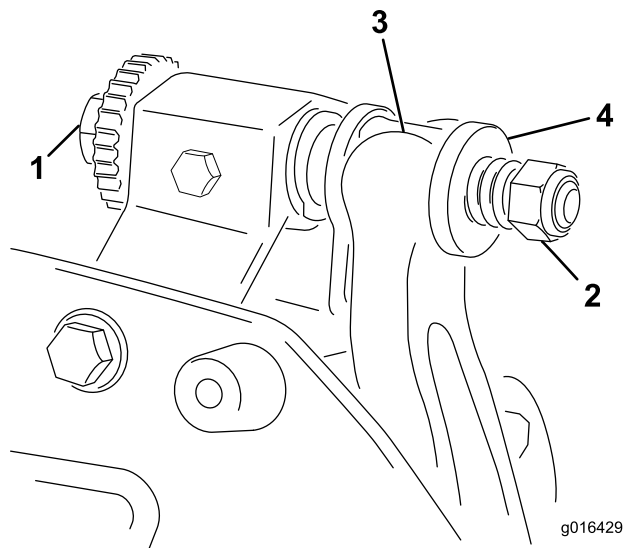

Figure 19
1. Turn the bedbar adjuster screw counterclockwise, to back the bedknife away from the reel (Figure 19).
2. Back out the spring tension nut, until the washer is no longer tensioned against the bedbar (Figure 19).